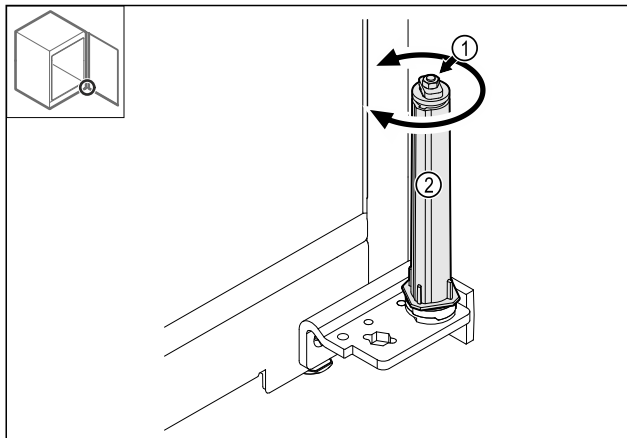

Fig. 41
- Do not dismantle the screw connection *Fig. 41 (1)* on the locking system.
- Turn the locking system *Fig. 41 (2)* until it clicks.